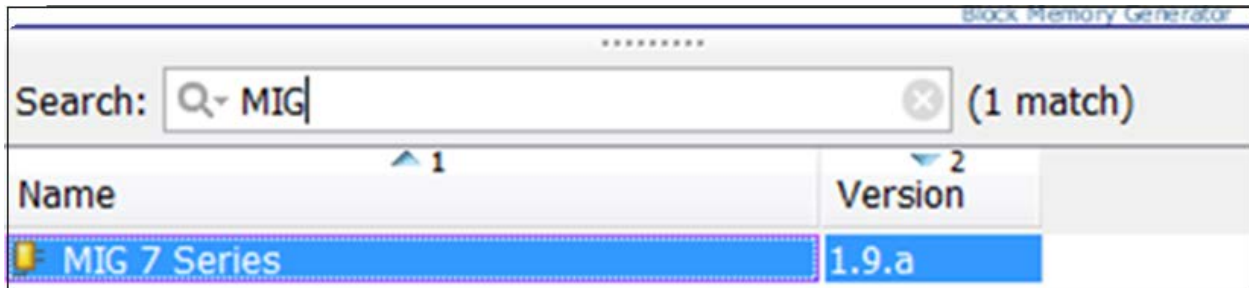

Figure 89: MIG Selection
- 11. On the canvas, right-click and select **Add IP** to instantiate the MIG IP (DDR3 Interface Controller) (Figure 89).